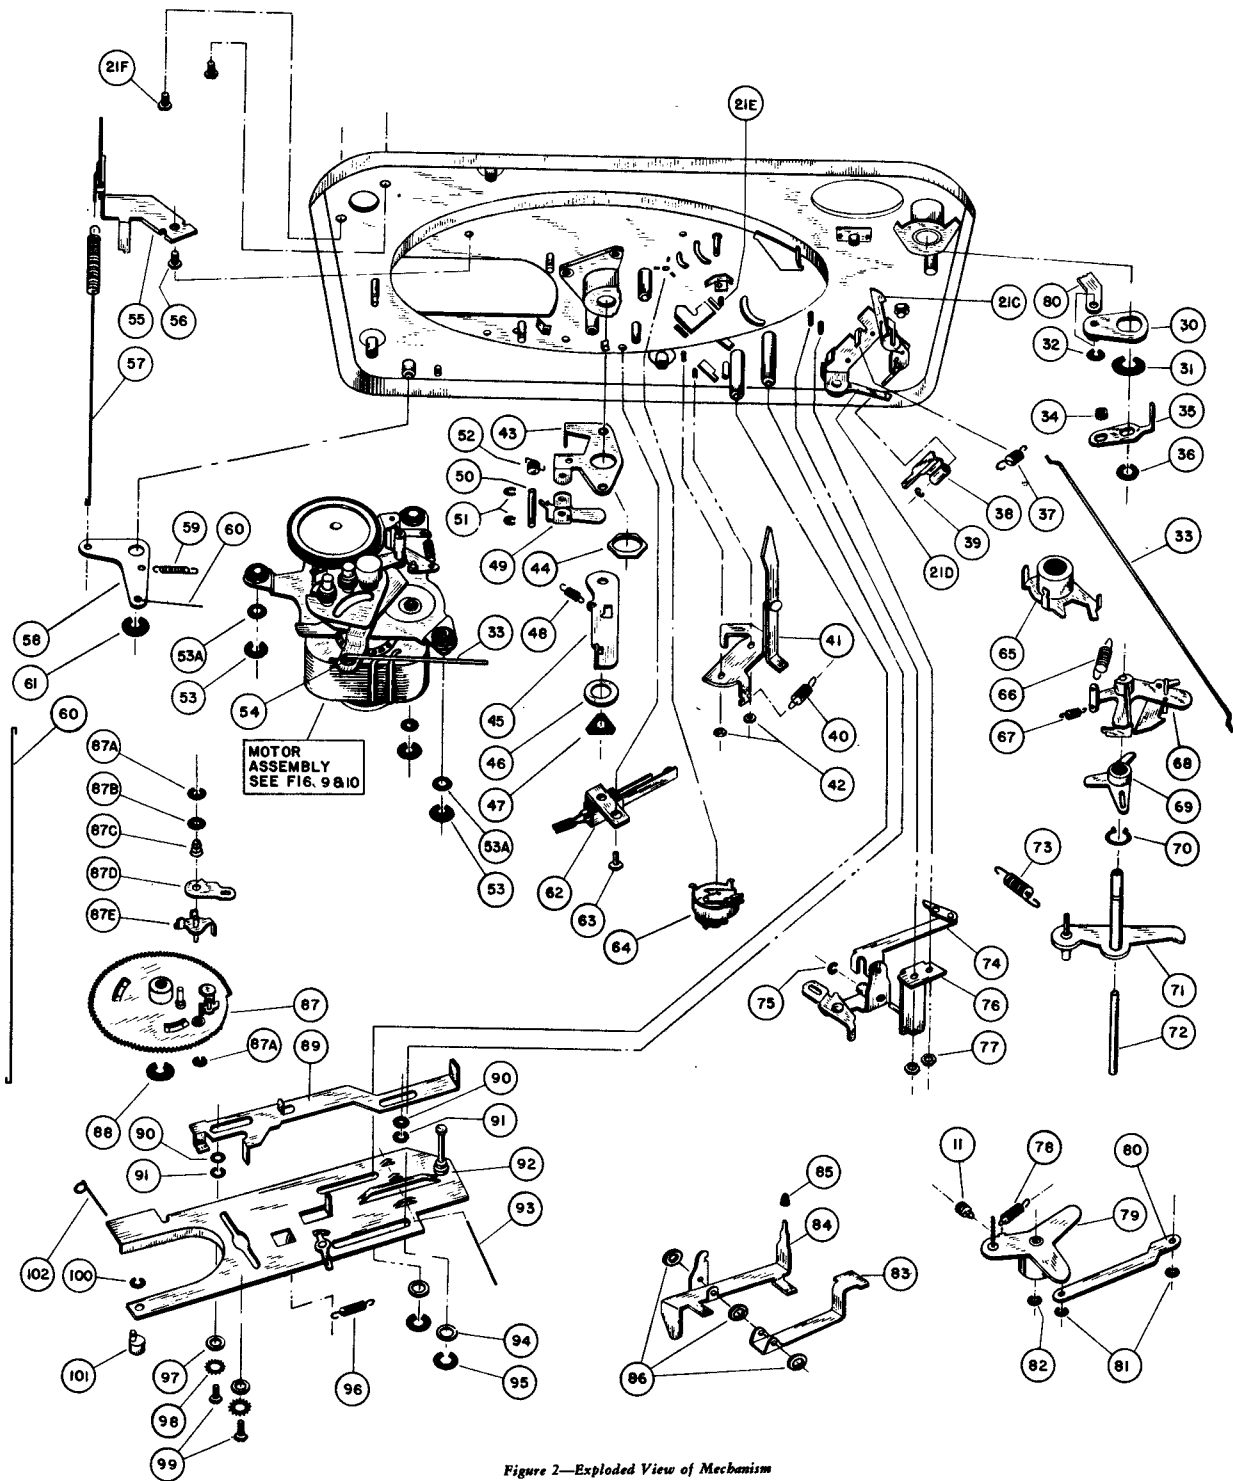

Figure 2—Exploded View of Mechanism
**OUTPUT INDICATOR**—Connect the output indicator (a 1000-ohms-per-volt voltmeter or an oscilloscope) between test point B (located on the antenna terminal board) and ground. (Location of test point B is shown in figure 2.)